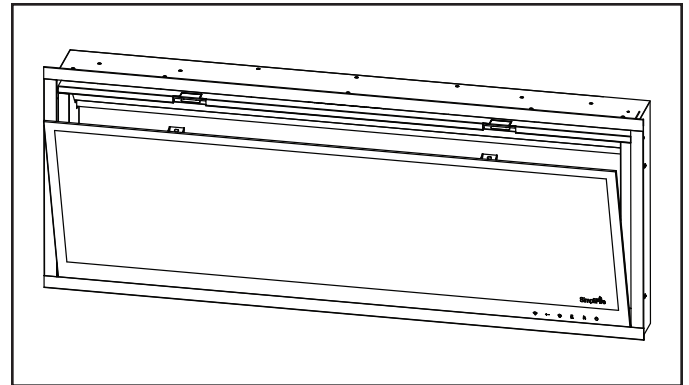

Figure 7.5 Glass Installation
1. Angle the glass to place the bottom edge into the channel behind the outer trim. See Figure 7.5.